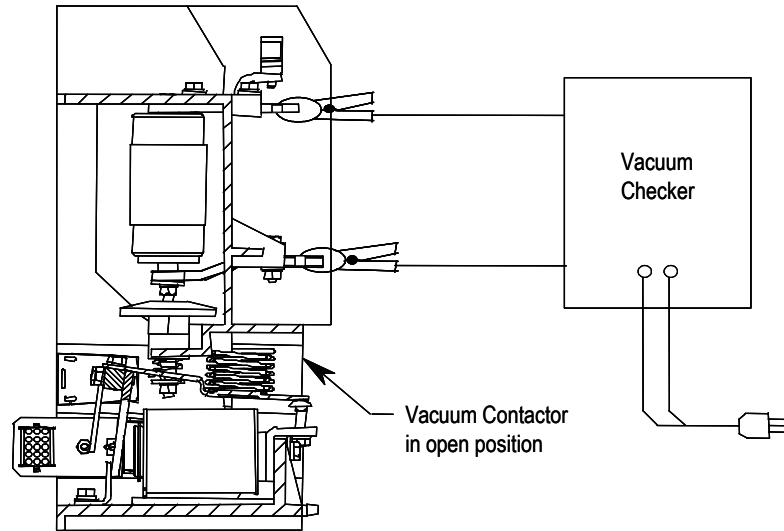

Figure 2.1 – Vacuum Bottle Integrity Test Circuit
3. With the contactor in the open position, connect the test leads to the contactor power terminals as shown in Figure 2.1. It is recommended that an AC Hi-pot tester be used. Use the test voltage indicated in Table 2.A. Test each vacuum bottle individually.